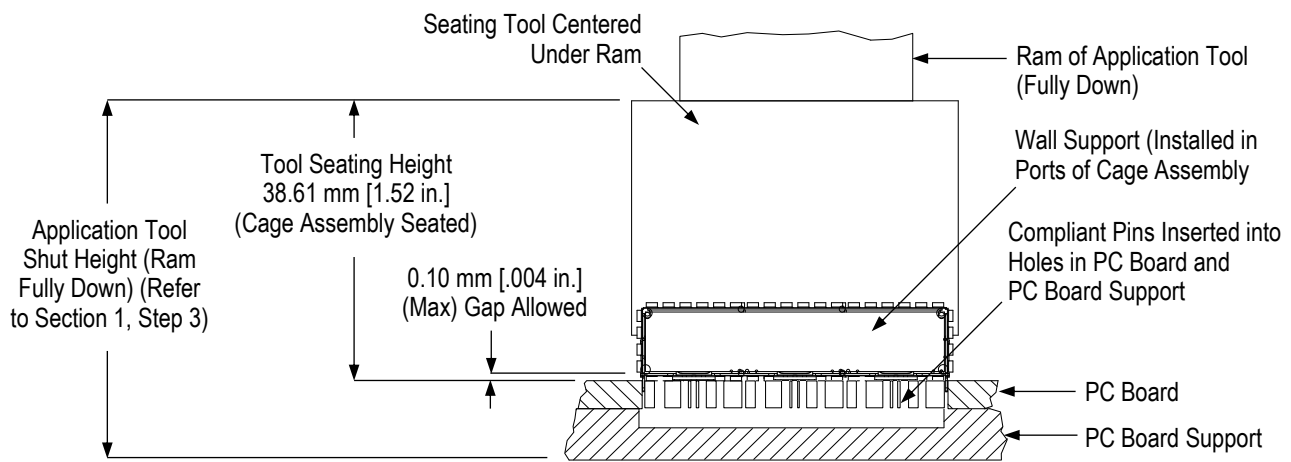

Figure 2
- The tool seating height must be set to the dimension given in Figure 2 (application tool shut height will equal the tool seating height plus the combined thicknesses of the pc board and pc board support).
3. SEATING (See Figure 2)